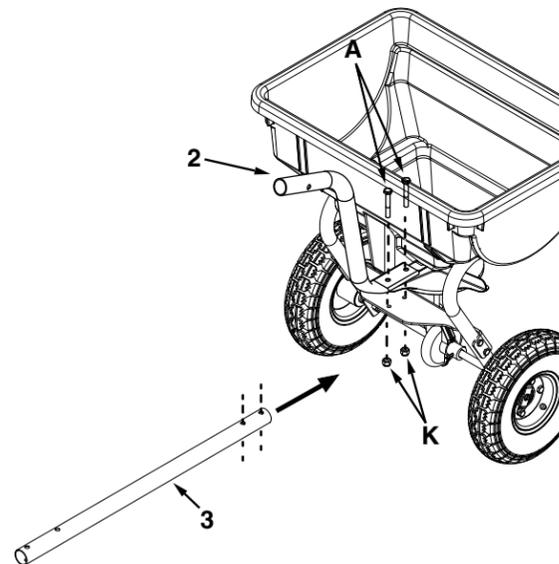

Figure 8
STEP 8 (SEE FIGURE 8): Attach the control tube (2) and the hitch tube (3) to the assembly using two 1/4 x 1-3/4" hex bolts (A) and nylock nuts (K).